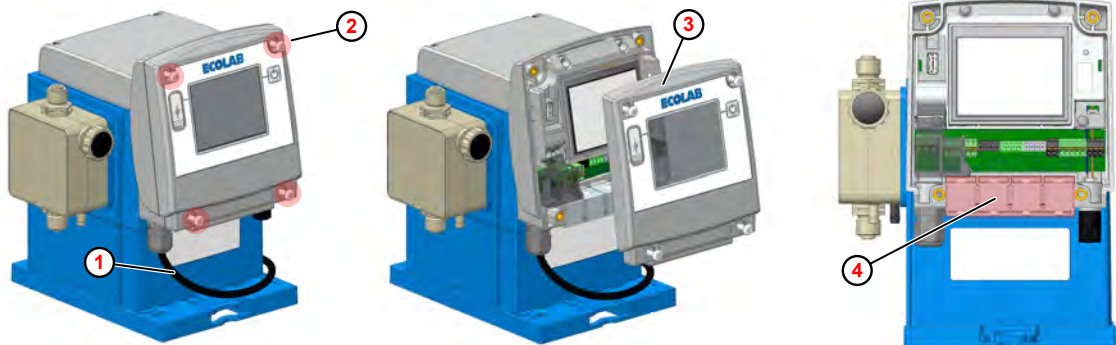

Fig. 21: Electrical installation of the 'EcoAdd'
- ① Power cord
- ② Housing screw
- ③ Front cover
- ④ Clamping cube
1. ➤ Loosen all 4 housing screws (Fig. 21 , ②).
2. ➤ Remove the front panel ③ .
3. ➤ To connect additional external enable signals, route the connector lines through the clamping cube ④ .